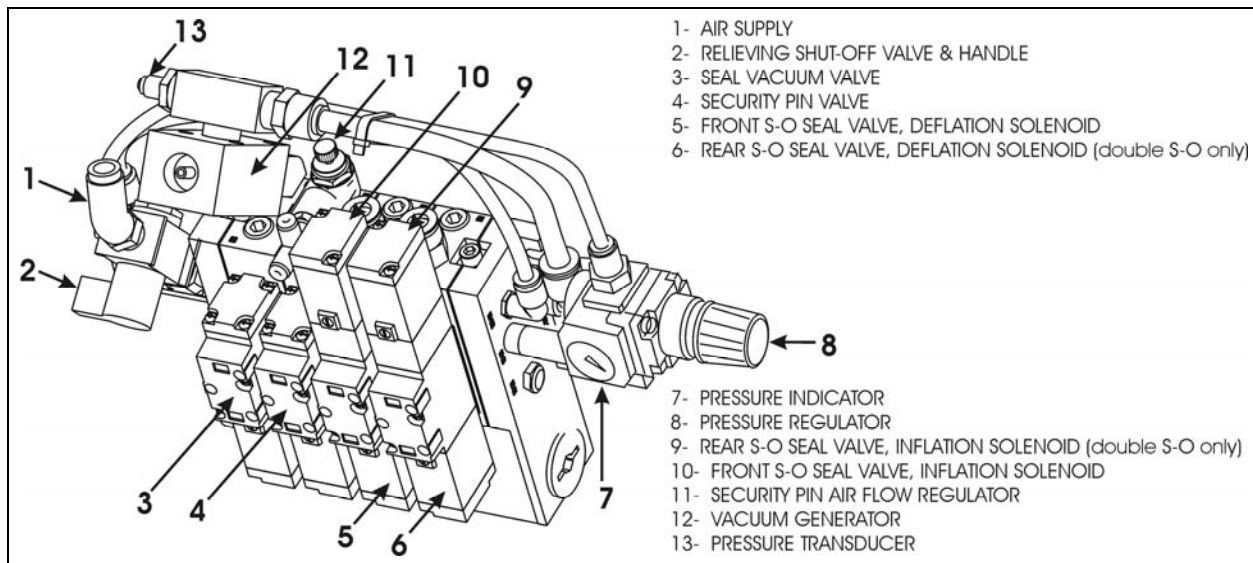

FIGURE 30: PNEUMATIC CONTROL UNIT
Make sure the inflatable seal is deflated when moving the slide-out manually during service maintenance. Deflate both inflatable seals completely by turning the relief shut-off valve handle clockwise (see FIGURE 30, item 2).
6. Manually deflate the seal completely by turning the relieving shut-off valve clockwise (FIGURE 30). Make sure the pressure indicator reading is "0 psi".